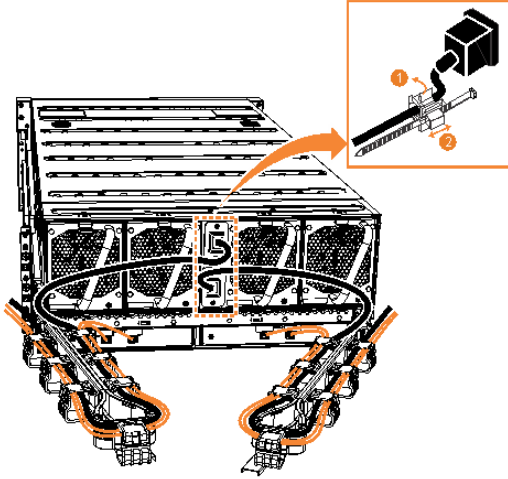

Figure 58. Secure power cables
2. Secure the power cables in the cable retainer at each power connector on the rear of the enclosure, as shown in Figure 58 on page 93. Also, ensure that each cable is installed along one of the cable management arms. The cable management arms also support the SAS cables.